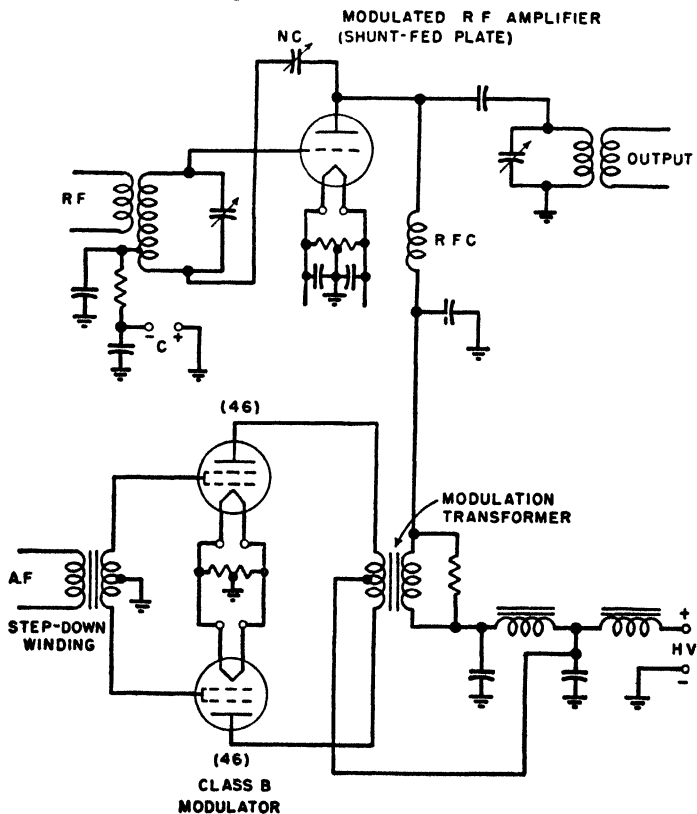

FIG. 4-7.—Class B modulation system.
**Ans.** Figure 4-7 illustrates a simple schematic of a class B modulated radio-frequency stage.